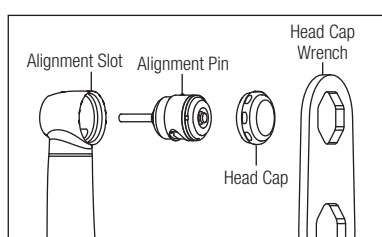

Fig. 14
- 6) Insert the new cartridge into the head by aligning the pin on the cartridge with the slot on the head (Fig. 14).